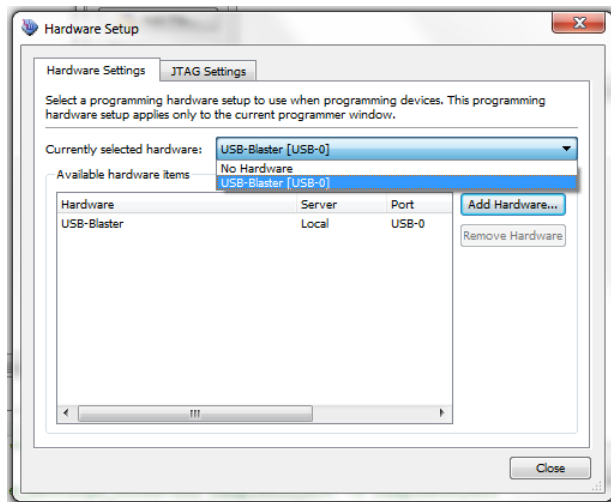

Figure 4.7.2: Programmer window
- Select Hardware Setup. A new window will appear (Figure 4.7.2)
- Next to “Currently selected hardware” select USB-Blaster from the drop down list (Figure 4.7.2)